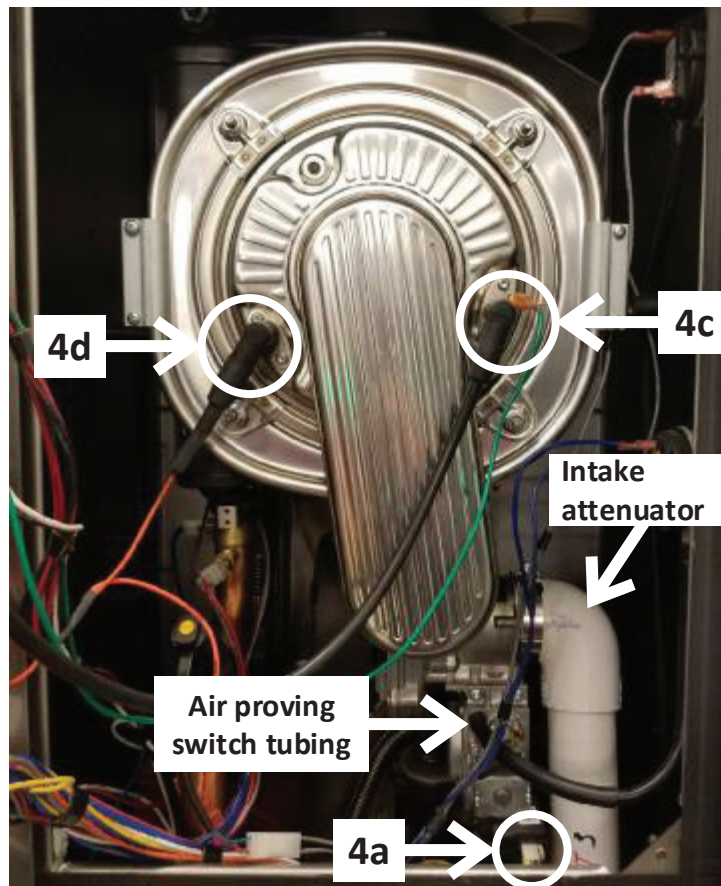

Figure 1
4. Disconnect tube to air proving switch, and disconnect the ends of these wire harnesses (Figure 1):
5. Remove intake attenuator if applicable (Figure 1).